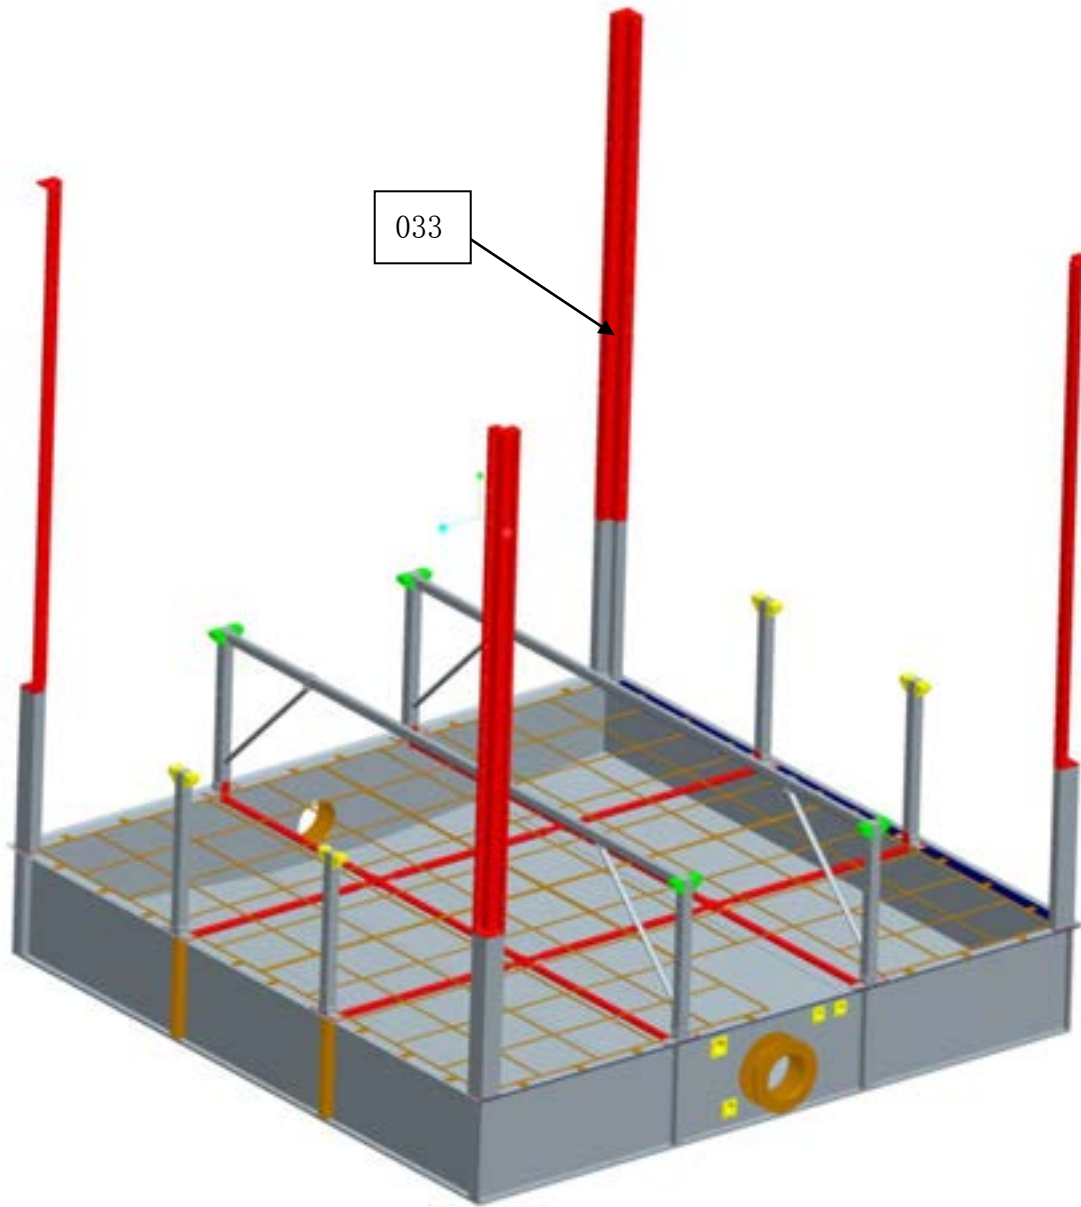

Figure 5
- 1) Install 4 pieces of panel middle post on four corners. (see figure 5)